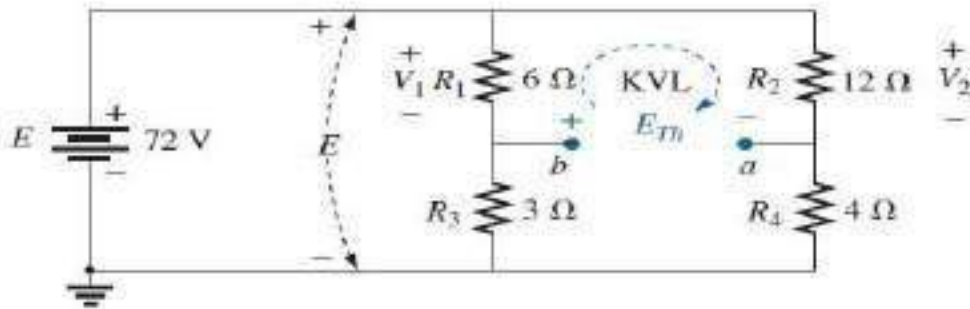

FIG. 9.46
Step 4: The circuit is redrawn in Fig. 9.46. The absence of a direct connection between a and b results in a network with three parallel branches. The voltages V_1 and V_2 can therefore be determined using the voltage divider rule: